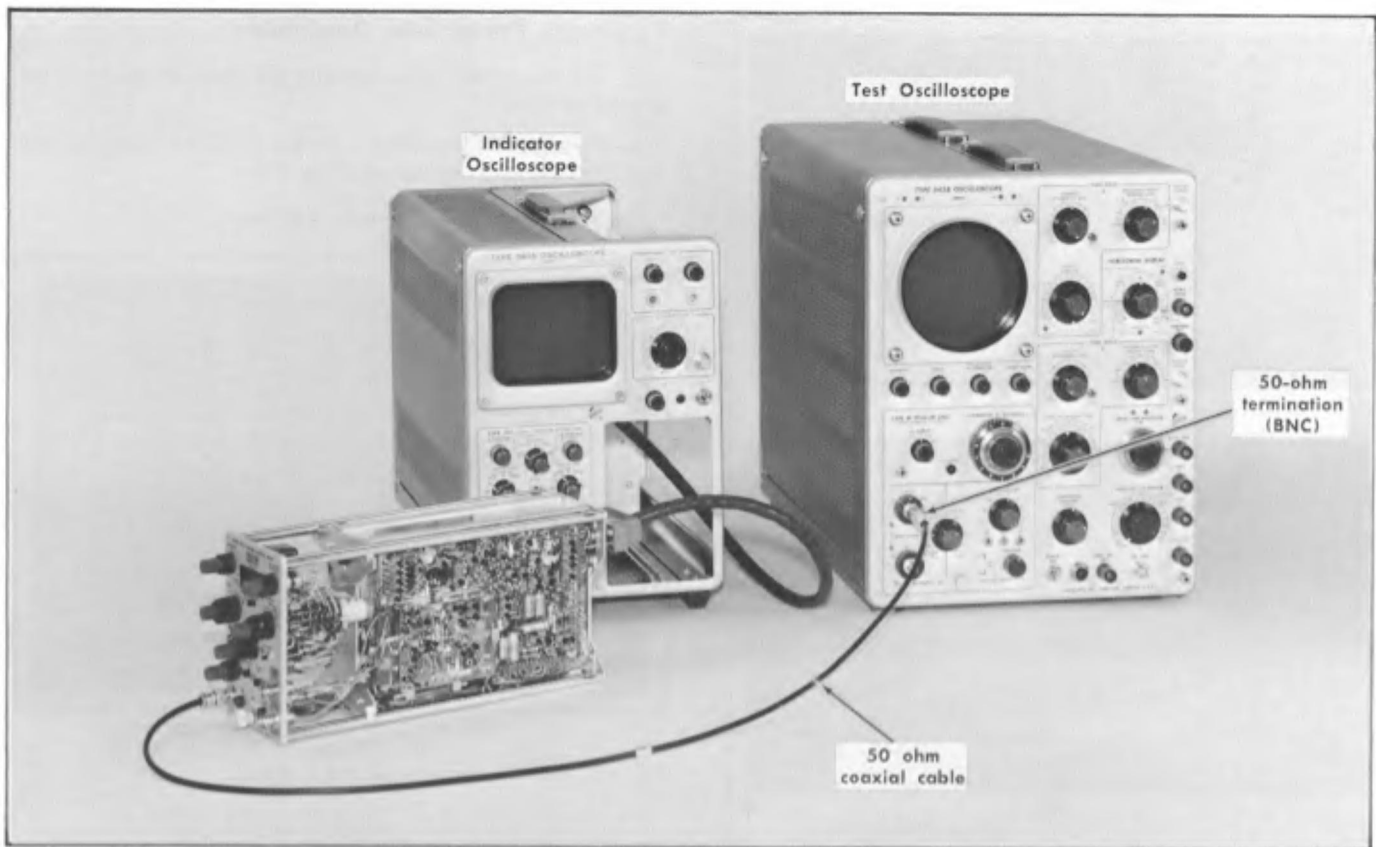

Fig. 7-6. Initial test equipment setup for steps 6 through 11.
①
a. Connect the Type 3T2 PULSE OUT signal to the Type W Input A connector through a 50  $\Omega$  coaxial cable and a 50  $\Omega$  termination. The initial test equipment setup is shown in Fig. 7-6.